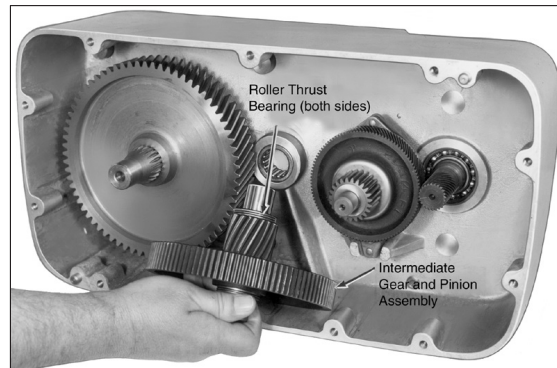
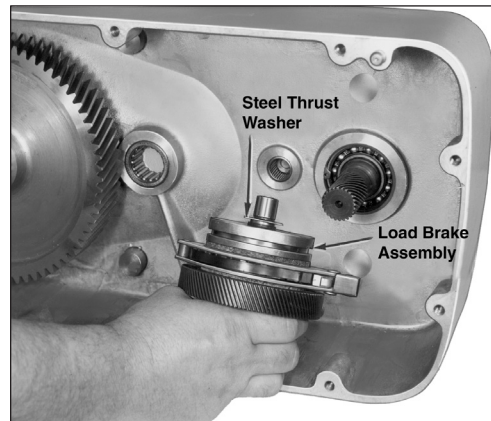

Figure 5-4. Removing Intermediate Gear and Pinion Assembly
Figure 5-5. Removed Load Brake Assembly
- b. To inspect gearing, pull out intermediate gear and pinion assembly and roller thrust bearings (Figure 5-4), and load brake assembly (Figure 5-5). Do not remove drum gear unless visual inspection indicates replacement is necessary.
- h. Install gearing and load brake assembly in gearcase in reverse order of disassembly. Be certain roller thrust bearings are installed at both ends of intermediate gear shaft as shown in Figure 5-4 and that thrust washers are properly installed at both ends of load brake shaft as noted below:
1. A steel thrust washer with 5/8" I.D. must be installed on the brake flange end (end opposite pinion) of load brake as shown in Figure 5-5.